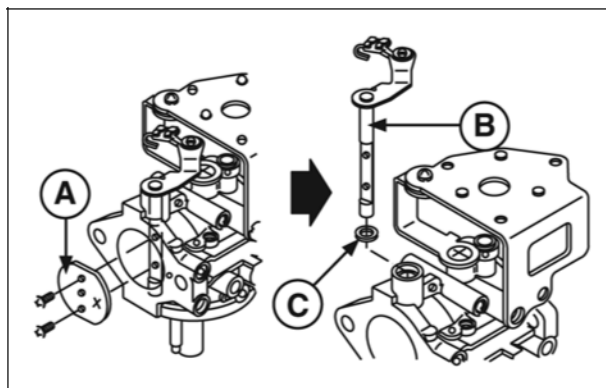

Figure 37
12. Mark throttle plate (A, Figure 37) before removing so that it may be reinstalled in the same position. The sides of the throttle plate are beveled.
13. Remove two screws, throttle plate, throttle shaft (B), and seal (C). Discard seal.